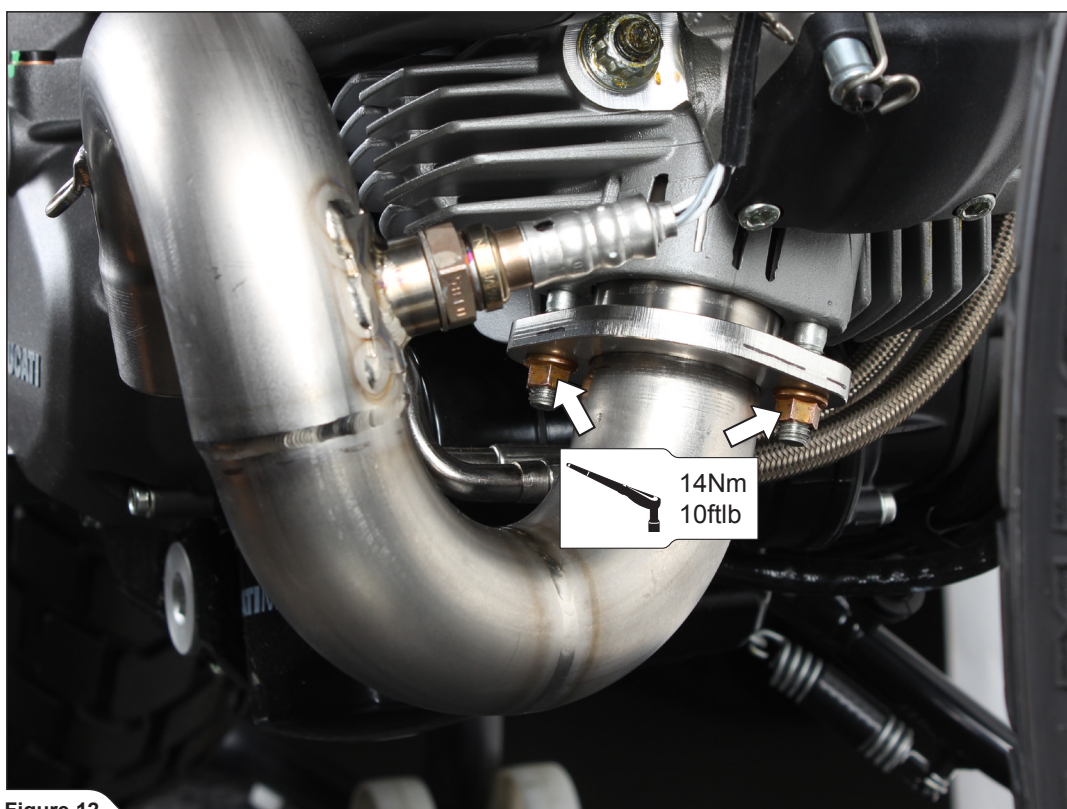

Figure 12
6. Tighten the front header flange to the specified torque (Figure 12).